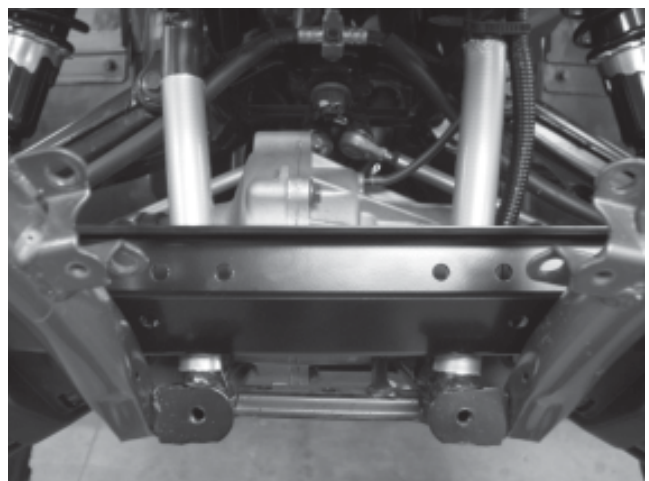

Figure 3
3. Align mount accordingly to figure 3. Mount should sit flush with the front and rear frame rails